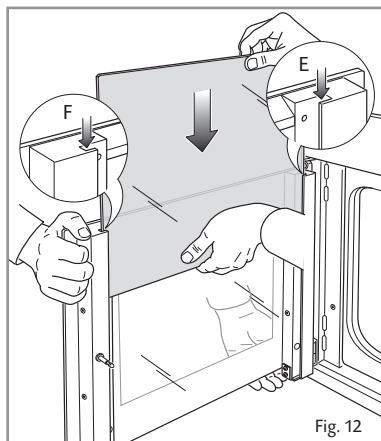
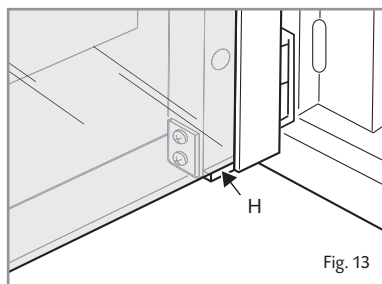

Fig. 12
Fig. 13
- Whilst one person holds the door still, a second person should insert the inner pane in the left "**E**" and right "**F**" side guides (fig. 12) and gently let it slide up to the retainers "**H**" (fig. 13).